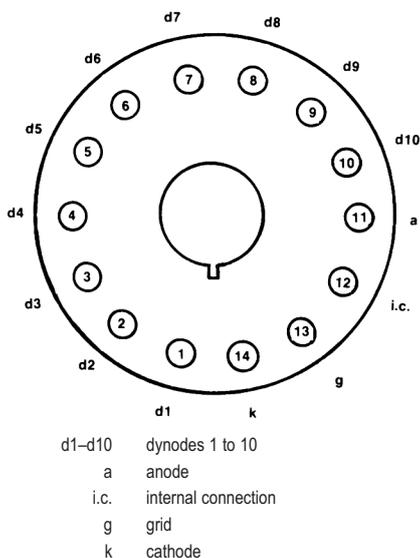
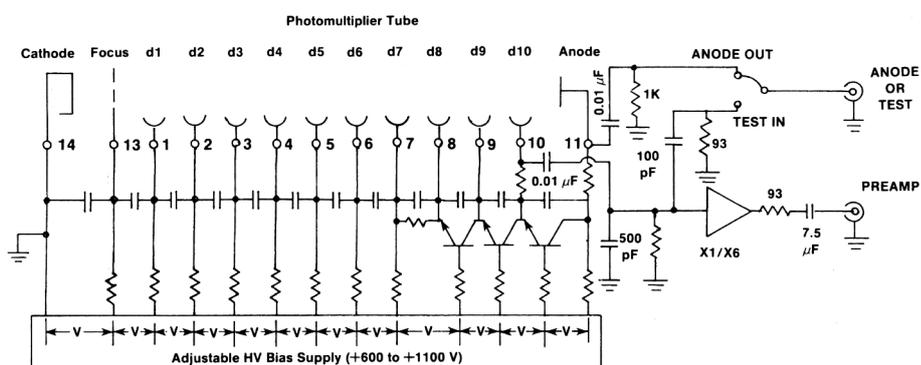

Fig. 1. JEDEC B14-38 PMT Pin Base, with Pin Assignments
Fig. 2. Simplified Schematic Diagram of the ORTEC Model 296 Photomultiplier Base.
The PMT socket is a standard JEDEC B14-38 socket that fits 10-stage photomultiplier tubes with 14 pins. Figure 1 defines the pin assignments, and Figure 2 illustrates the connections. The Model 296 ScintiPack Photomultiplier Base is compatible with the photomultiplier tubes listed in Table 1.
Compatibility with tubes not listed in Table 1 can be checked by reference to Figures 1 and 2, and by comparison with the photomultipliers listed in the table.
**PMT SOCKET** TRW 3B14. Fits the standard JEDEC B14-38 photomultiplier tube pin base for 14-pin, 10-stage PMTS. See Figures 1 and 2 for pin assignments.